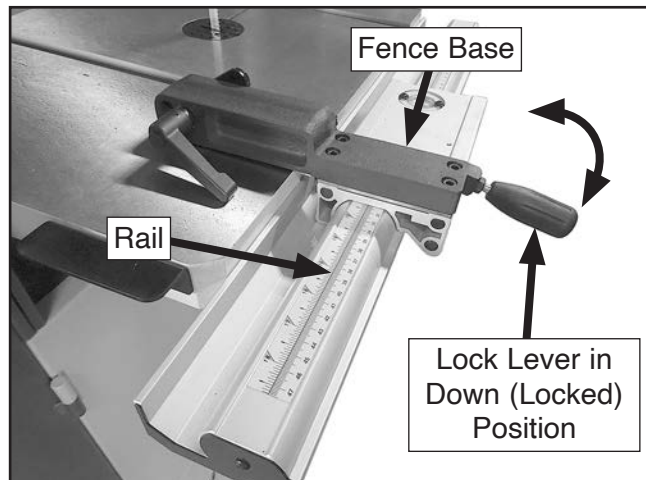

Figure 33. Fence base installed on fence rail.
12. Place fence base on fence rail with lock lever raised up. Push lock lever down to secure fence in place (see **Figure 33**).